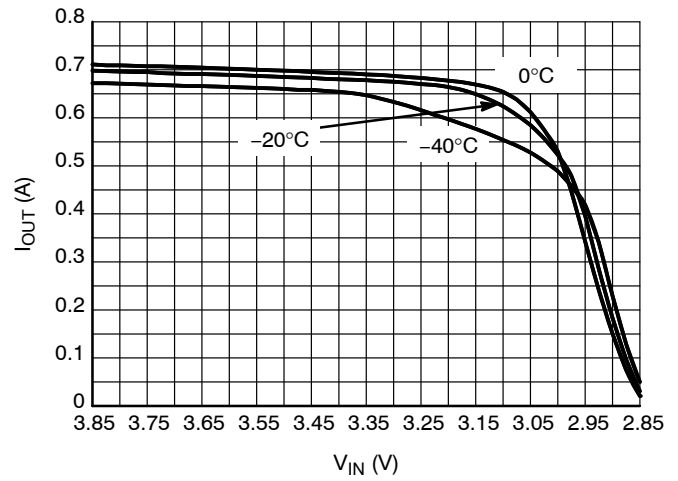

Figure 18. Output Current Capability for the 2.85 V Version
32. For output current capability for $T_A < 0^{\circ}\text{C}$, please refer to Figures 18 to 22.